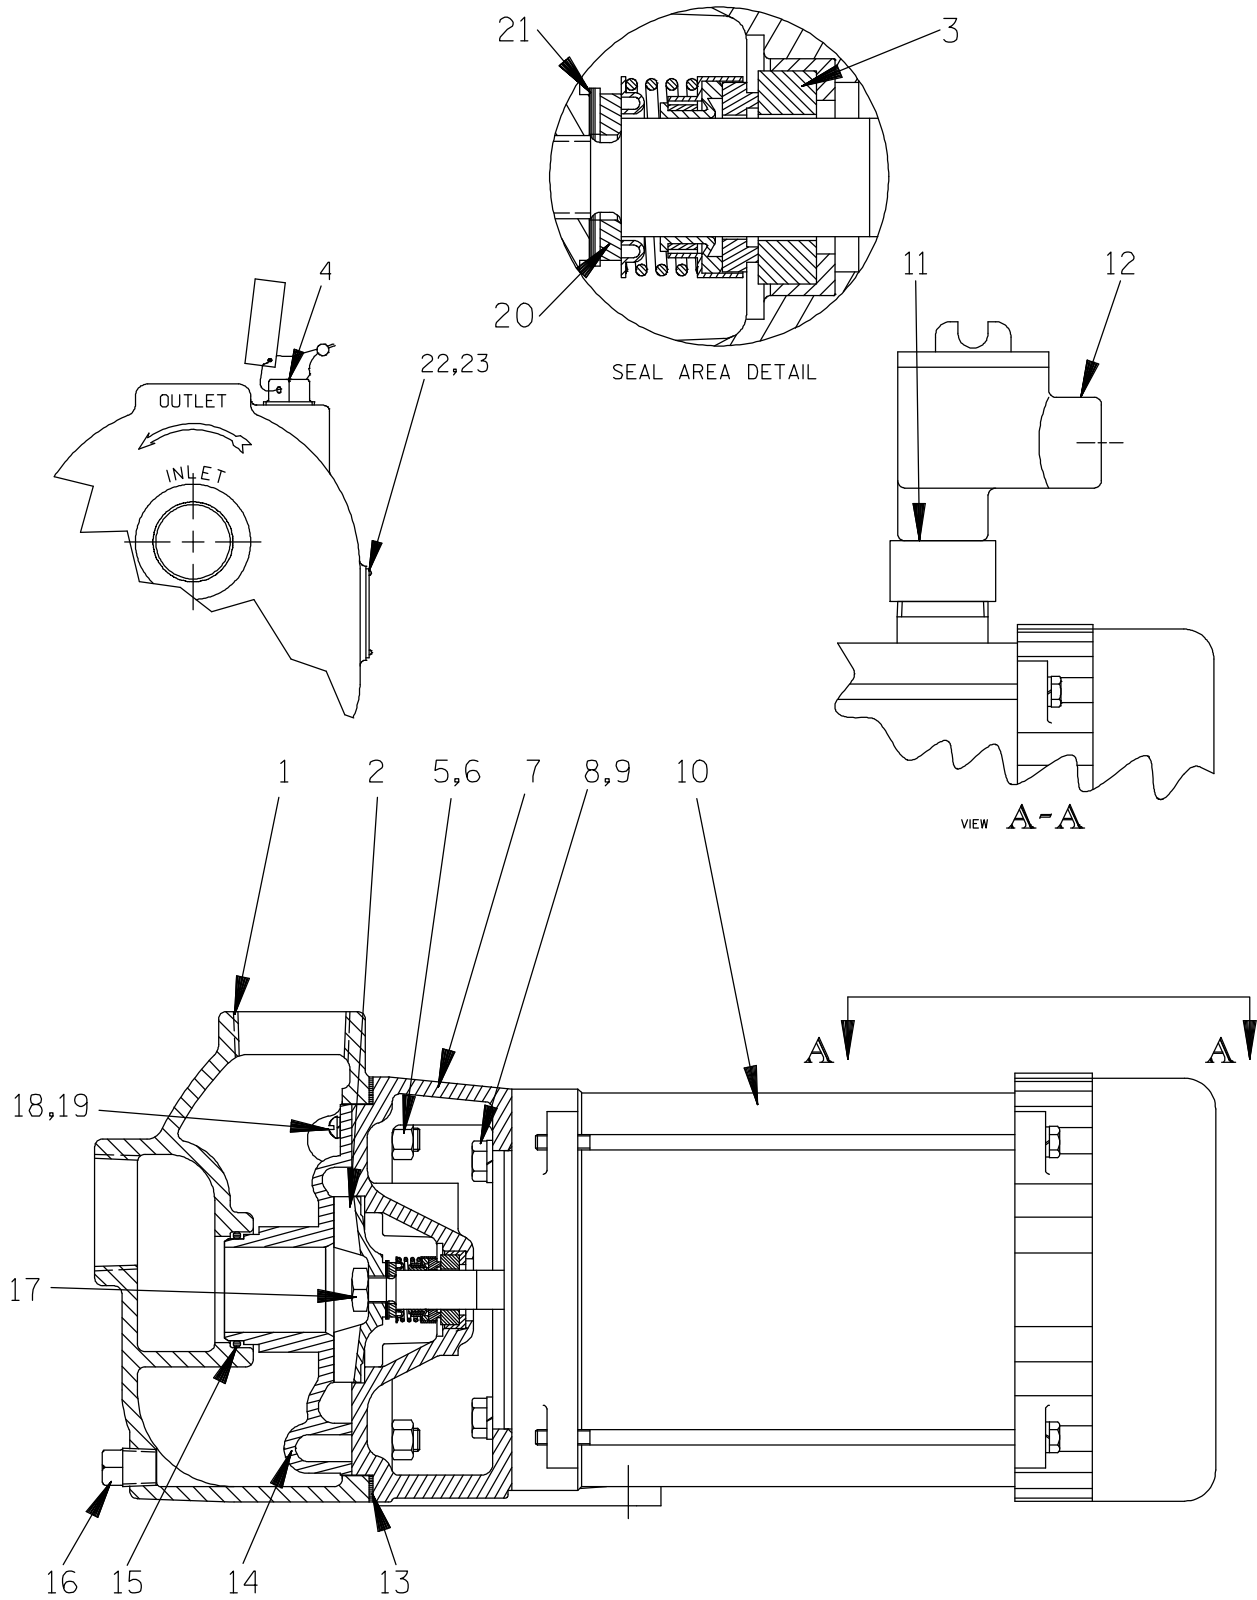

Figure 1. Pump Model 81 1/4A3-X.50 1P
This pump requires little service due to its rugged, minimum-maintenance design. However, if it becomes necessary to inspect or replace the wearing parts, follow these instructions which are keyed to the sectional view (see Figure 1) and the accompanying parts list.
**(Figures 1 and 2)**